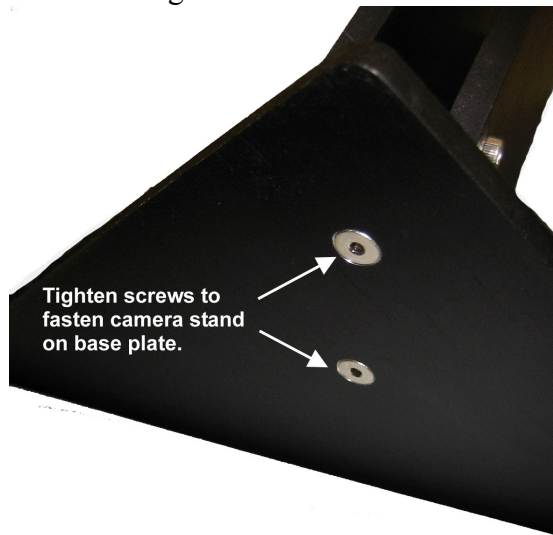

Figure 8: Tighten screws underneath base plate.
4. As shown in Figure 8, insert two screws from the beneath the calibration base and screw them into the base of the camera stand. To do this, carefully move the base plate off the edge of a table so that it's easy to access its bottom panel. Be careful and support the stand before the screws are tightened.